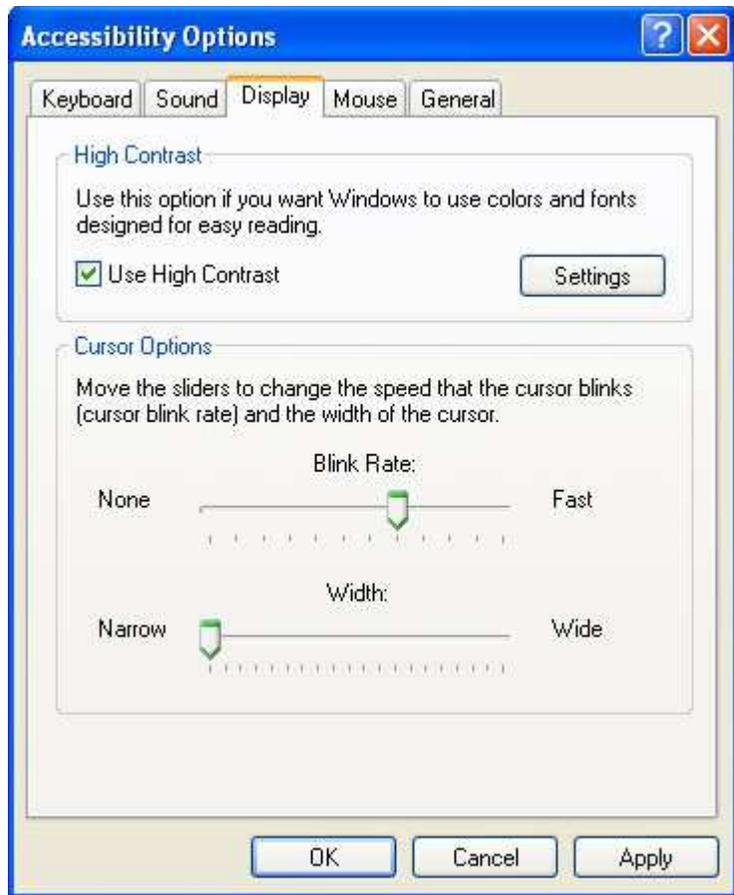

Figure 48. Display tab
3. In the **High Contrast** area of the **Display** tab, select the **Use High Contrast** check box, as shown in Figure 48 on page 142: